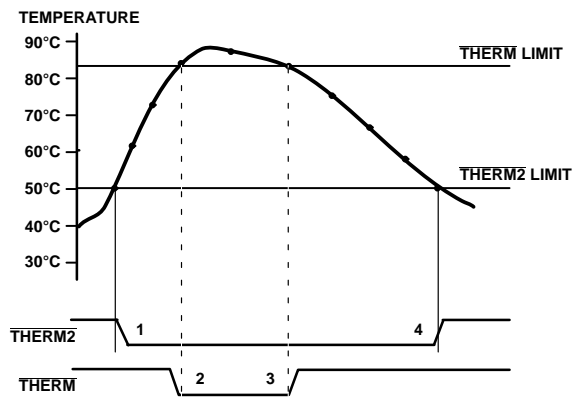

Figure 20. Operation of the  $\overline{\text{THERM}}$  and  $\overline{\text{THERM2}}$  Interrupts
Figure 20 shows how  $\overline{\text{THERM}}$  and  $\overline{\text{THERM2}}$  operate together to implement two methods of cooling the system. In this example, the  $\overline{\text{THERM2}}$  limits are set lower than the  $\overline{\text{THERM}}$  limits. The  $\overline{\text{THERM2}}$  output is used to turn on a fan. If the temperature continues to rise and exceeds the  $\overline{\text{THERM}}$  limits, the  $\overline{\text{THERM}}$  output provides additional cooling by throttling the CPU.
- The  $\overline{\text{THERM}}$  output deasserts (goes high) when the temperature falls to  $\overline{\text{THERM}}$  limit minus hysteresis. In Figure 20, there is no hysteresis value shown.